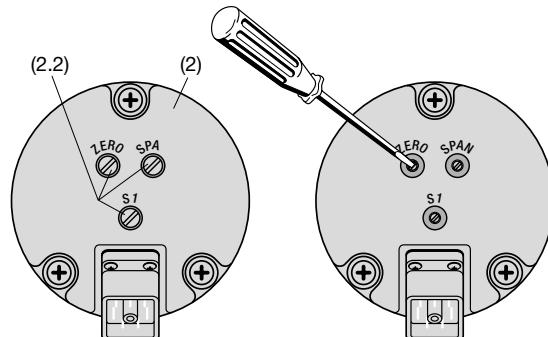
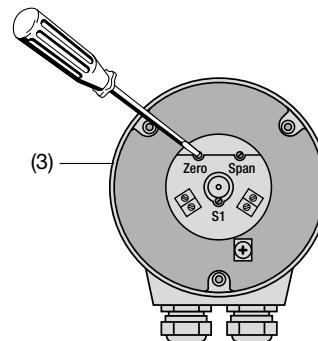

Fig. 9. Rear (2) of the transmitter with the adjustments "ZERO", "SPAN" and "S1".
Fig. 10. Rear (3) of the transmitter with the adjustments "ZERO", "SPAN" and "S1".
- ... with **plug-in connector** remove the ZERO/SPAN sealing screws (2.2) (Fig. 9, left).
Then adjust the "ZERO" potentiometer (Fig. 9, right or Fig. 10) using a watchmaker's screwdriver (2.3 mm diam.) so that the desired output current flows.
A switch is provided on angular transmitters with a measuring range > 150° for reversing the direction of rotation. It is marked S1 (Fig. 9 and Fig. 10).
- ... with **plug-in connector** remove the S1 sealing screw (2.2) (Fig. 9, left).